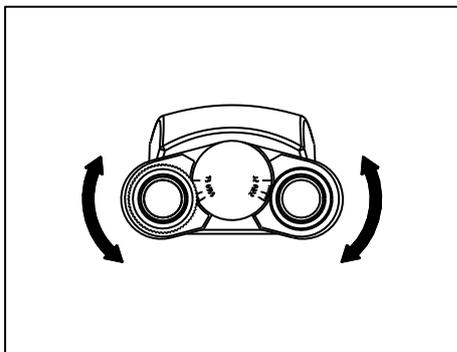

Fig.18
3.3.6 Adjusting the Interpupillary Distance (Fig.18)